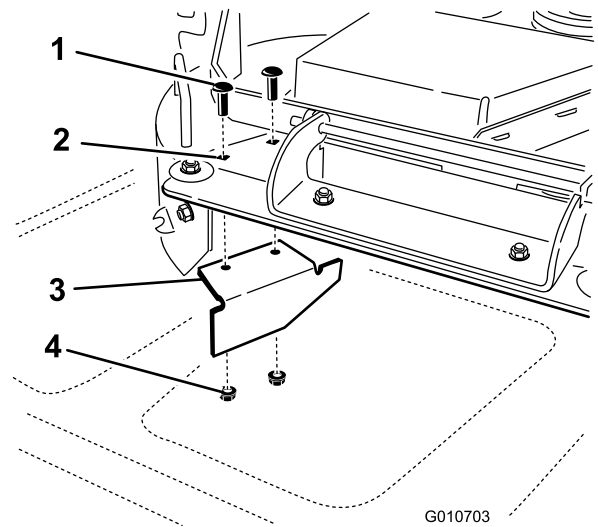

Figure 34
13. Locate the cut off baffle in the loose parts bag. Remove the fasteners at the rear holes of the discharge plate. Install the baffle at the side discharge opening on the mower deck (Figure 34).